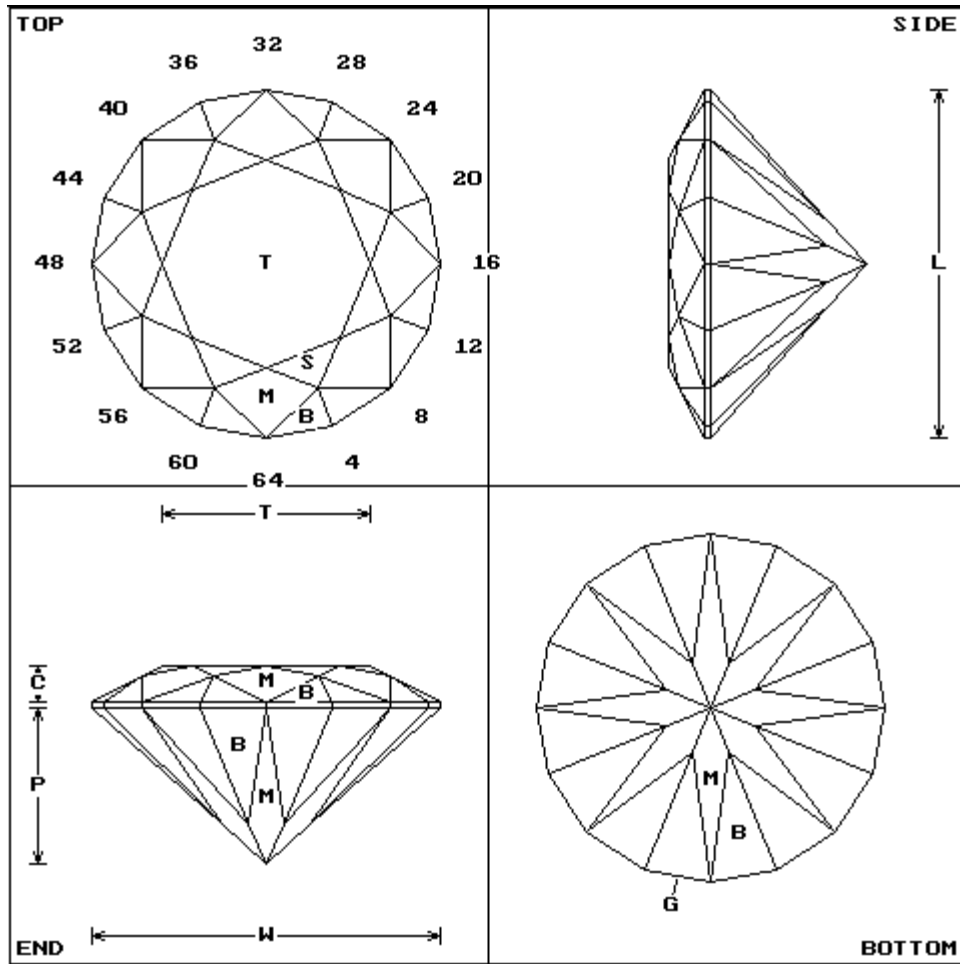

Figure 19. The completed brilliant
Execute the **Playback (P)** command (in the **Utility Menu**). GemCad will show an animation of the stone. The completed stone should look like Figure 19. You can list a cutting schedule to your printer by moving to the **Diagram Menu** and pressing the **List to file (L)** key and entering PRN for the file name. The resulting schedule should look like the listing in Table 1, but the angles might be a bit different since their numerical values were not entered but were set by "eye."